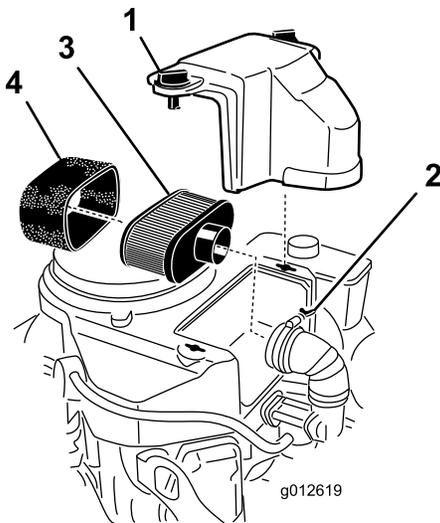

Figure 41
3. Clean around the air cleaner to prevent dirt from getting into the engine and causing damage (Figure 41).
4. Unscrew the cover knobs and remove the air-cleaner cover (Figure 41).
5. Unscrew the hose clamp and remove the air-cleaner assembly (Figure 41).
6. Carefully pull the foam element off the paper element (Figure 41).
Note: If it is very dirty, replace the paper element with a new one (Figure 41).
1. Carefully slide the foam element onto the paper air-cleaner element (Figure 41).
2. Place the air-cleaner assembly onto the air cleaner base or hose and secure it (Figure 41).
3. Place the air-cleaner cover into position and tighten the cover knob (Figure 41).